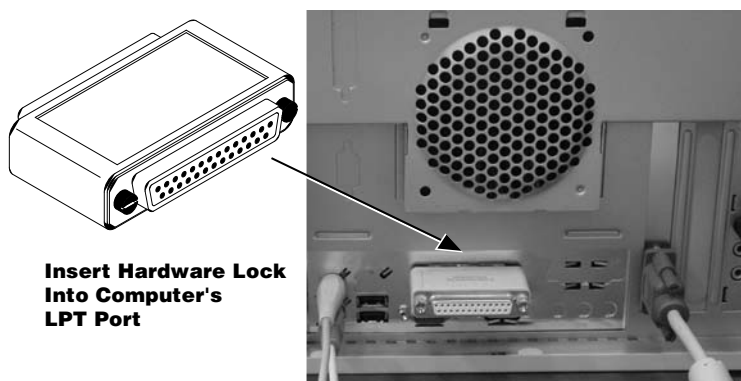

Figure 1-10. Insert Hardware Lock – LPT Dongle Example
- If your package has a hardware lock (LPT or USB dongle), insert it into the computer's appropriate port (Figure 1-10). Topcon Tools requires this to start.